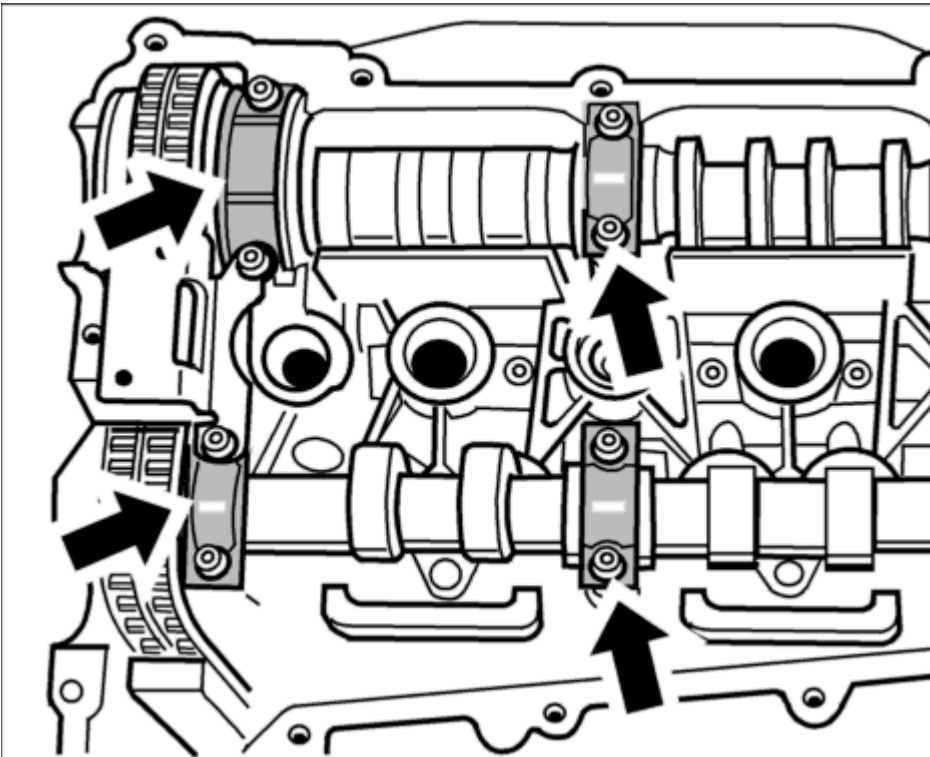

Fig. 44: Installation position of housing
29. Insert three thrust bearings and one housing **-arrows-** for the bearing sleeve of the camshafts together with the guide rail for the timing chain. See **Fig. 44**.